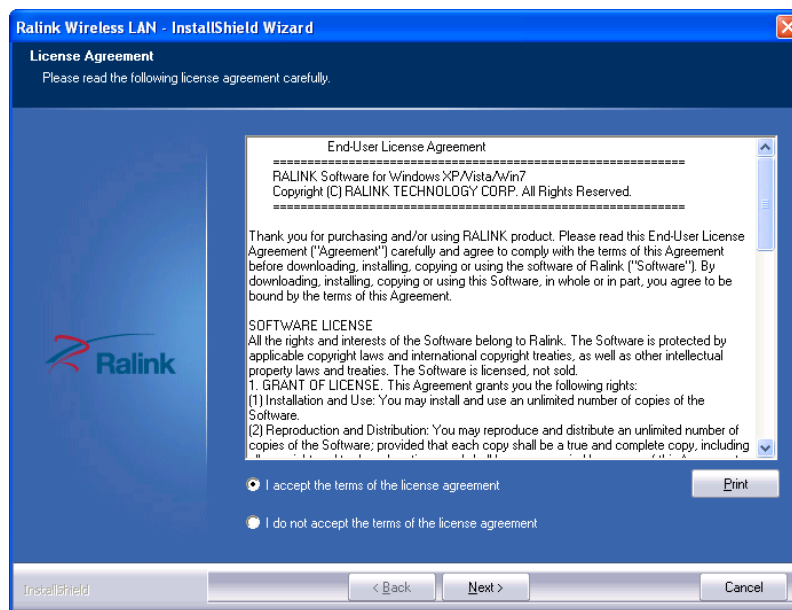

Figure 3-1: License Agreement
Step 3: The **License Agreement** screen in **Figure 3-1** appears.